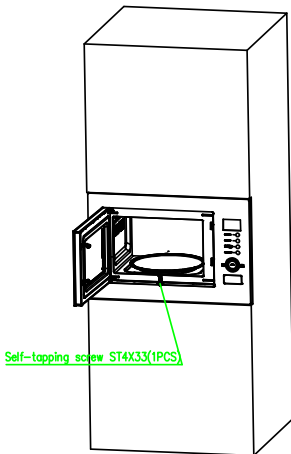

Fig.5
e) Open the door, then fix it with screws, as shown in Fig 5.
Opening size (W\*H\*D):378\*600\*550(mm) as shown in Fig.5 “E”, “D”, “F”.